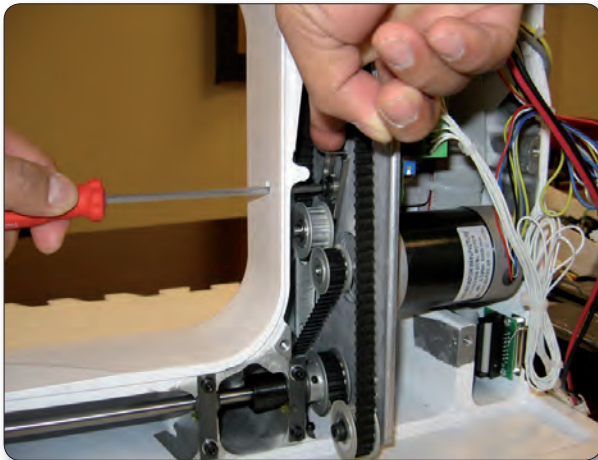

Figure 6.2
- Insert a 4 mm handle Allen tool through the hole in the main frame casting (Figure 6.2). Loosen the socket-head belt tensioner screw. Adjust the belt tensioner by pressing down on the tensioner and while holding down on the tensioner re-tightening the belt tensioner screw. (Figure 6.2)